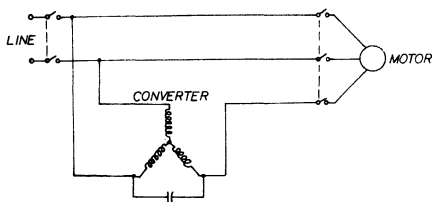

Figure 9.—Wiring of converter so that single-phase power cannot be supplied to other loads unless the converter has power.
2. In the connection shown in figure 9, power cannot be supplied to the other loads unless the converter has power. While this is a disadvantage, you cannot accidentally apply single-phase power to the three-phase motor.